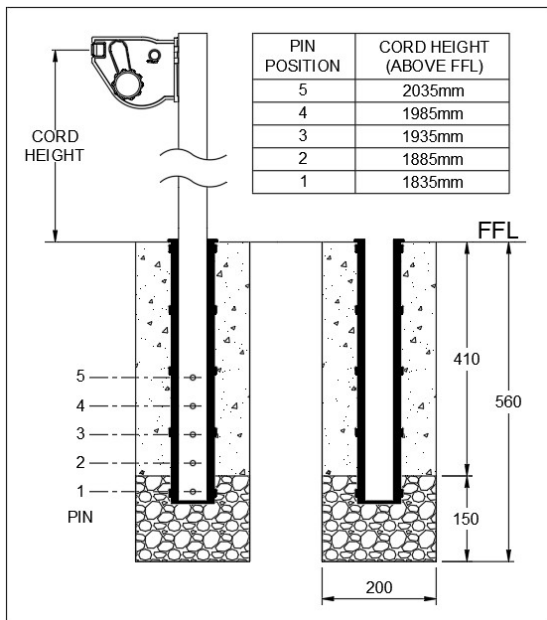

Fig. 7 Installation of Ground Socket.
- Install the Ground Socket as per the below image (Fig. 7).